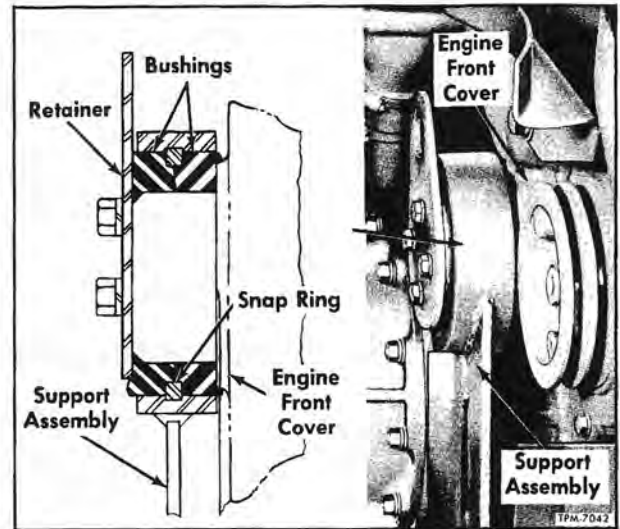
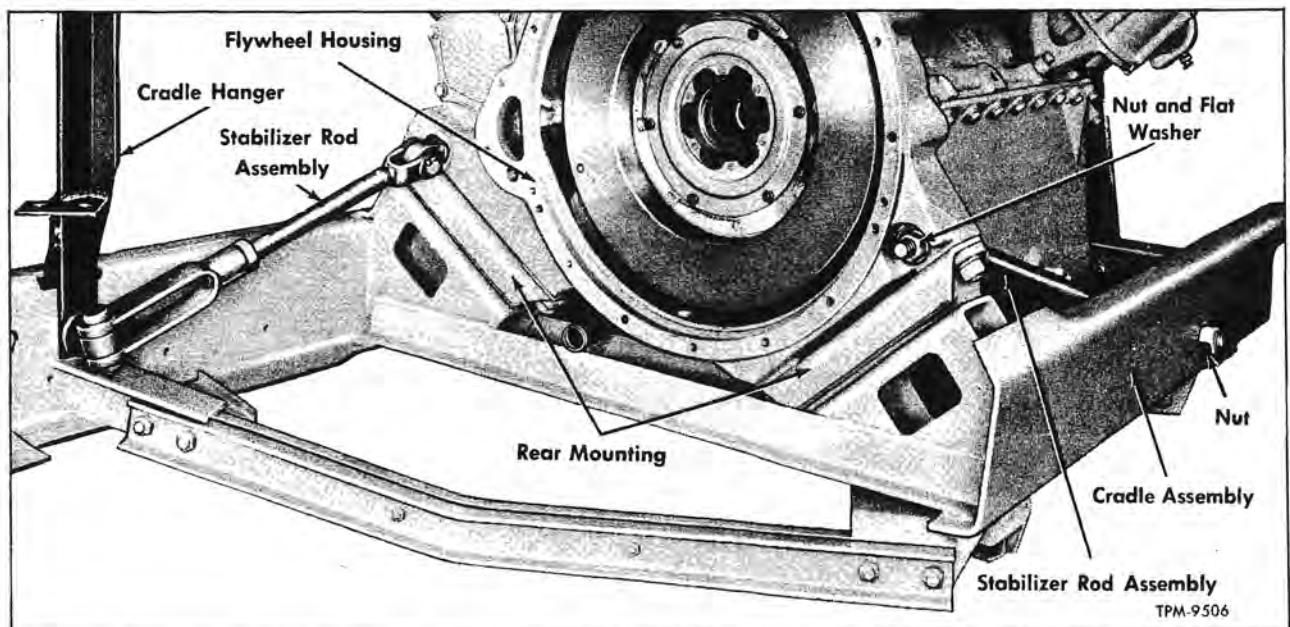

Figure 9—Engine Front Mounting
Figure 10—Engine Mounting and Stabilizer Rods—6 Cylinder Shown
Engine is supported by three cushion type mountings. Front of engine is mounted on two round rubber bushings and a support (fig. 9), while two flat rubber mountings are used at rear (fig. 10). Transmission is bolted to engine and the complete power plant including radiator (6-cylinder only), exhaust system, and rear bumper is supported on cradle. Two stabilizer rods (fig. 10) anchor the engine in position on cradle.
1. Inspect engine front mounting bushings (fig. 9). If bushings are deteriorated or damaged, replace bushings.
2. Inspect engine rear mounting assemblies and engine stabilizer rods (fig. 10). If mountings are oil-soaked or show evidence of failure, replace mountings.